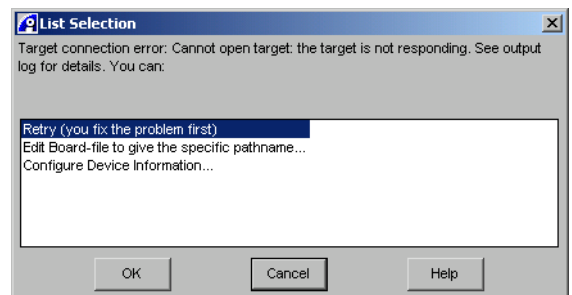

Figure 2-4 Failing to make a connection
If RealView Debugger attempts to make a connection and fails, it normally displays a list selection box to offer possible actions, shown in Figure 2-4. Some endpoint connections, such as Multi-ICE, might also display their own dialog boxes or messages.
- The selection box, shown in Figure 2-4 on page 2-19, might include the entry *Display list of possible problems...* RealView Debugger might display this option if there are known problems with solutions to apply. Selecting the option displays a message box containing a list of possible causes for the failure to connect. The text describes ways to fix the problem.